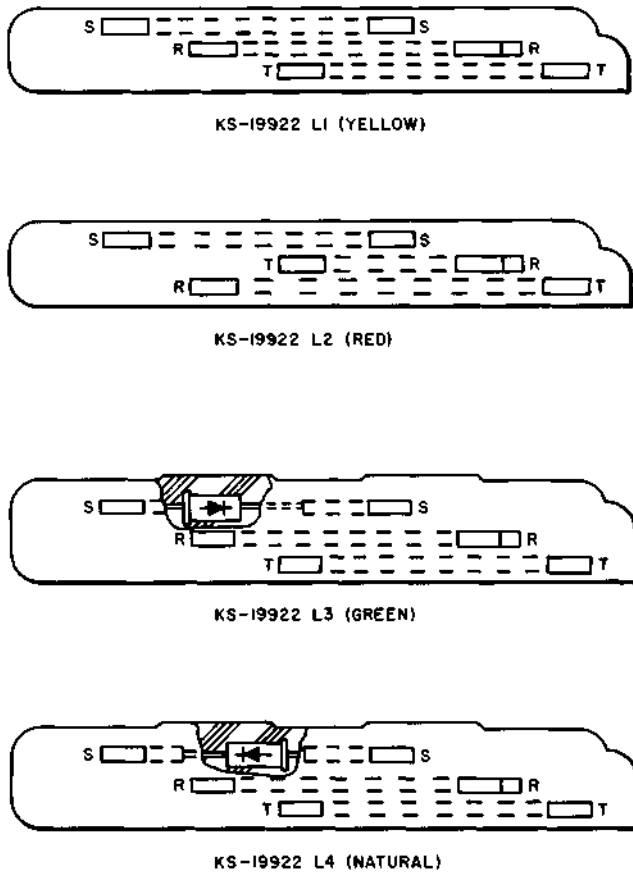

Fig. 25—KS-19922 L1 Through L4 Connectors
14.03 The contacts on the KS-19922 L1 connector (Fig. 25) connect tip, ring and sleeve to tip, ring and sleeve, respectively. The contacts on the KS-19922 L2 connector connect tip, ring, and sleeve to ring, tip, and sleeve, respectively. The contacts on the KS-19922 L3 connector connect tip, ring, and sleeve to tip, ring, and sleeve, respectively, except that the sleeve contacts are connected by a diode. The diode is arranged to permit current flow only from the sleeve contact at the square end of the connector to the sleeve contact at the notched end of the connector. The KS-19922 L4 connector is the same as the KS-19922 L3 except that the diode between the sleeve contacts is reversed.